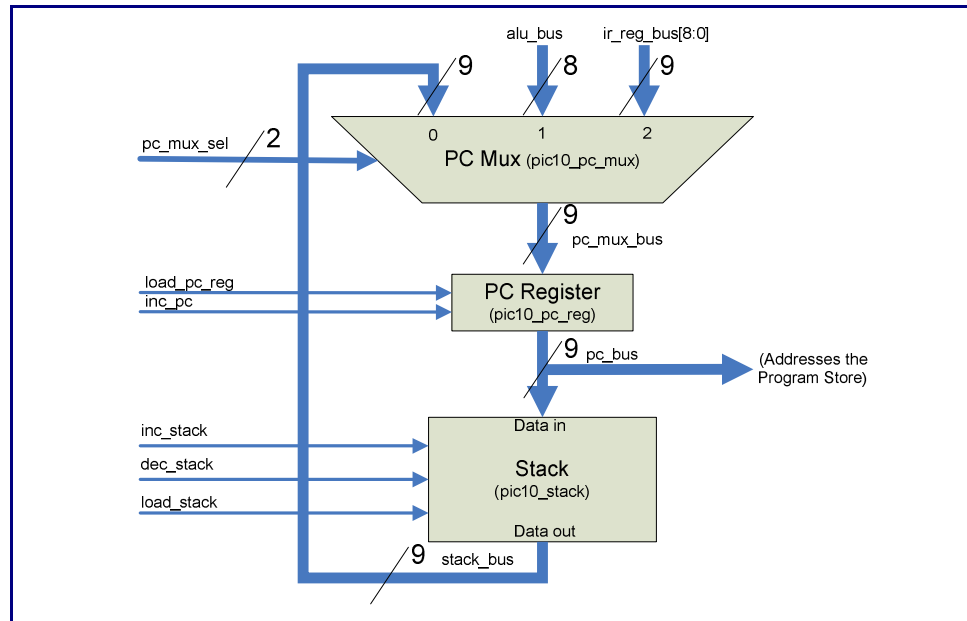

Figure 8. The 'pic10_pc_datapath' module contains the logic required to interact with the Program Counter register.
The 'pic10_pc_datapath' module contains the Program Counter (PC) register and the stack. Since the PC register can be loaded from 'alu_bus'¹⁷, from a literal in the instruction word¹⁸ or from the stack¹⁹ a multiplexer is needed to select where the data loaded into the PC register should come from. The resulting datapath is shown below in Figure 8.
As Figure 8 shows, the 'pc_mux_sel' input selects the source of the data on the 'pc_mux_bus'. The 'pic10_pc_reg' register is loaded on the rising edge of the clock signal when the 'load_pc_reg' signal is asserted. The 'inc_pc' signal is used to increment the Program Counter as each instruction is executed. The 'inc_stack' and 'dec_stack' signals are used to select which stack register will be loaded when the 'load_stack' signal is asserted. The 'stack_bus' always outputs the data in the current stack location (i.e. the data previously written to the stack location).